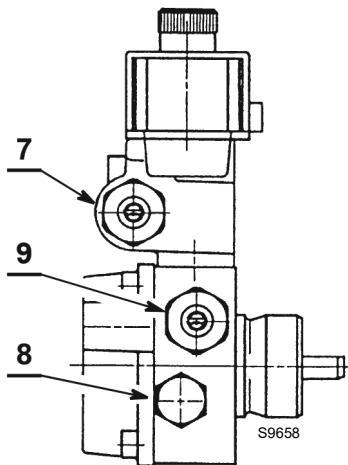

Fig. 19
- If necessary, recalibrate the pressure using the screw 7) Fig. 19.
- The pressure gauge for checking pressure should be fitted in place of the plug 8) Fig. 19.
- If necessary recalibrate the pressure, or if you prefer change it, just turn the screw 9) Fig. 19.
- The pressure gauge for checking pressure should be assembled in place of the plug 8)Fig. 19.
- If necessary recalibrate the pressure, or if you prefer change it, just turn the screw 9)(Fig. 19).
- The pressure gauge for checking pressure should be assembled in place of the plug 8)(Fig. 19).